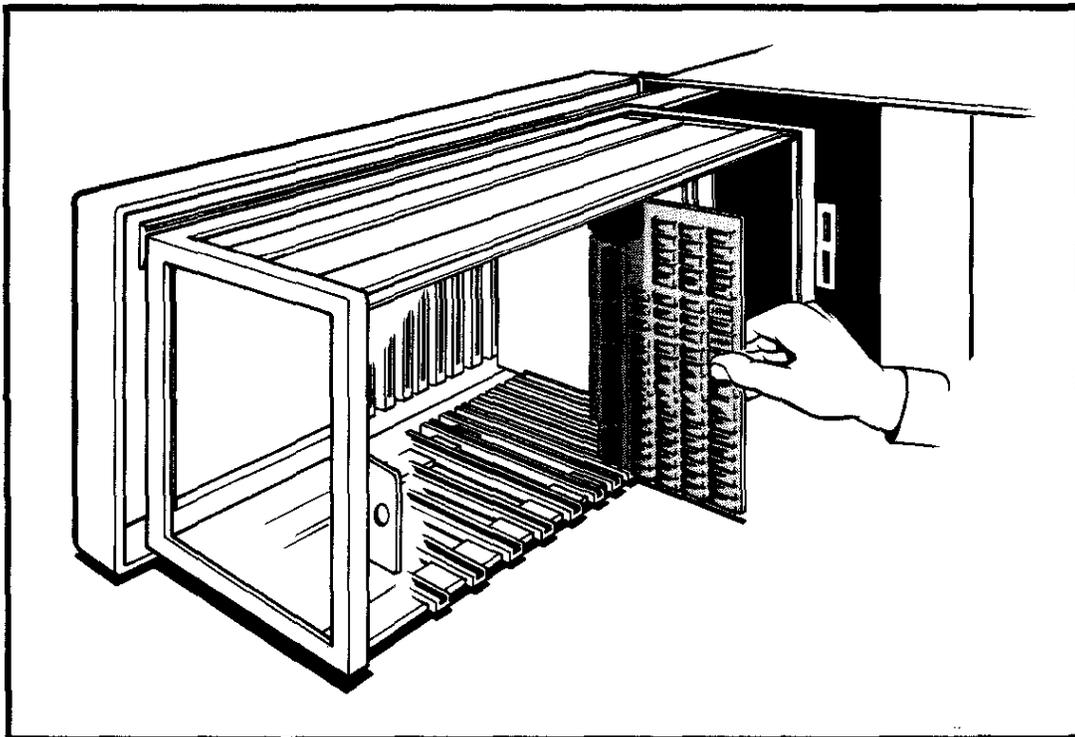

Figure B-2: INSERTING A CIRCUIT BOARD
4. Insert the board into one of the slots. The edge connector side of the board goes in first, with the integrated circuits toward you (Figure B-2). Make sure that the board is positioned properly in the board guides. If it isn't, pull the board out and reinsert it.